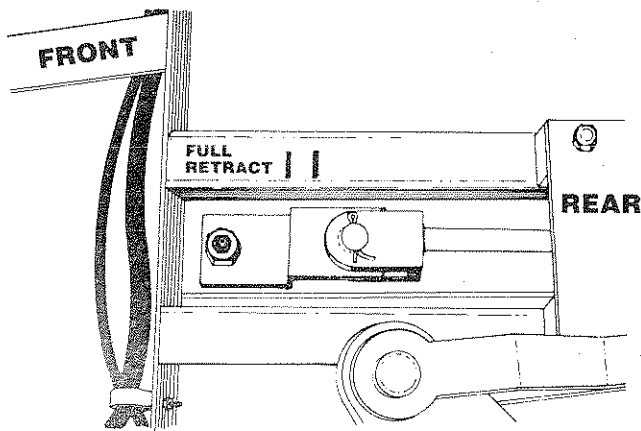

Fig. 47
6. Mark the location the plunger reached fully retracted. Also mark 1 inch rearward of this position, see Fig. 47.
14. Position LS-10 (Plunger Return/Stop Switch) to ensure the plunger stops when it is 1 inch rearward from its full retract position, see Fig. 47.